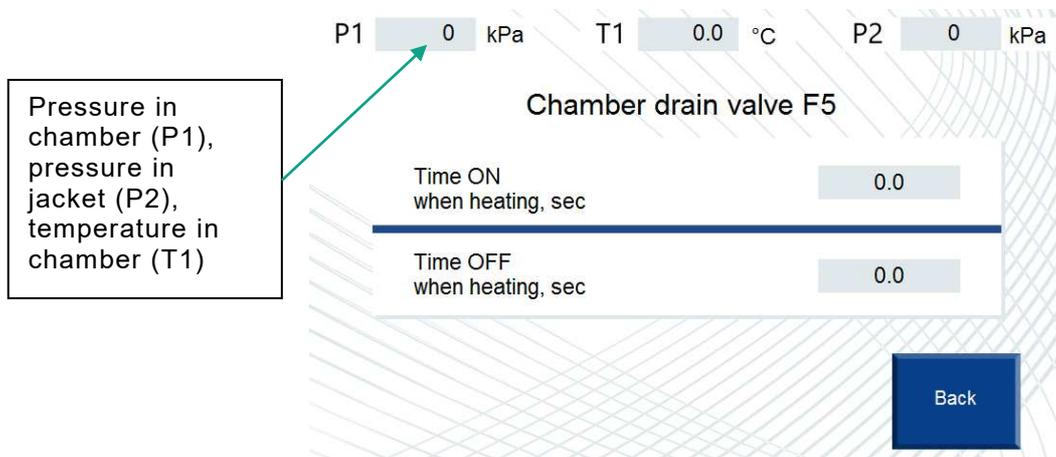

Fig. 38
**Settings of F5** – pressing this button moves to the F5 valve operation settings screen (Fig. 38).